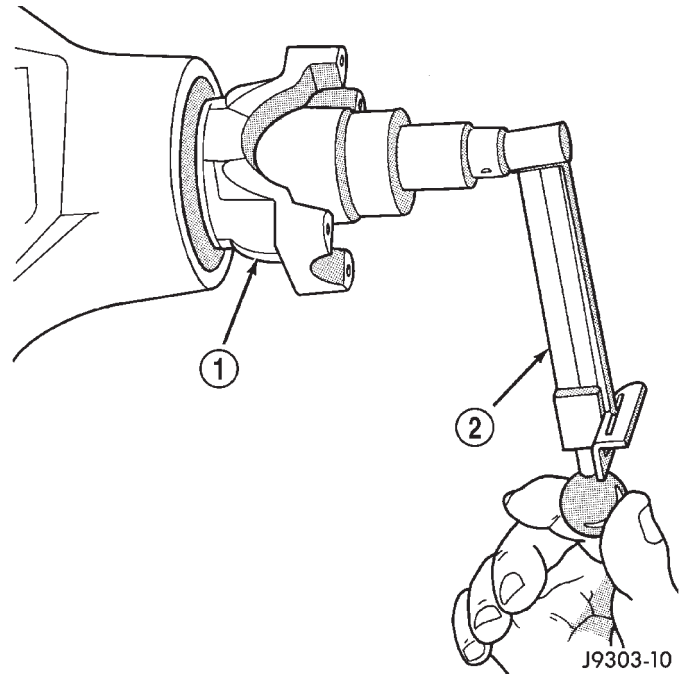

Fig. 16 Check Pinion Rotation Torque
(10) Rotate the pinion using an (in. lbs.) torque wrench. Rotating torque should be equal to the reading recorded during removal, plus an additional 0.56 N·m (5 in. lbs.) (Fig. 16).